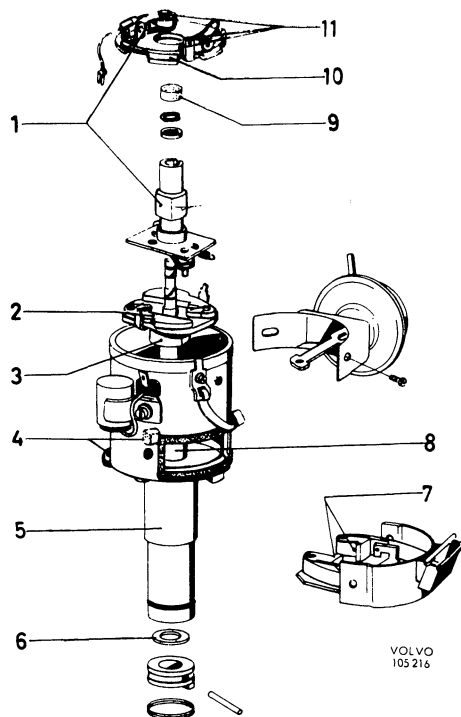

Fig. 3-78. Lubricating scheme for distributor
1. Lubricate the distributor parts according to the instructions given in Fig. 3-78.
4. Lubricate the distributor according to the instructions given in Fig. 3-78.